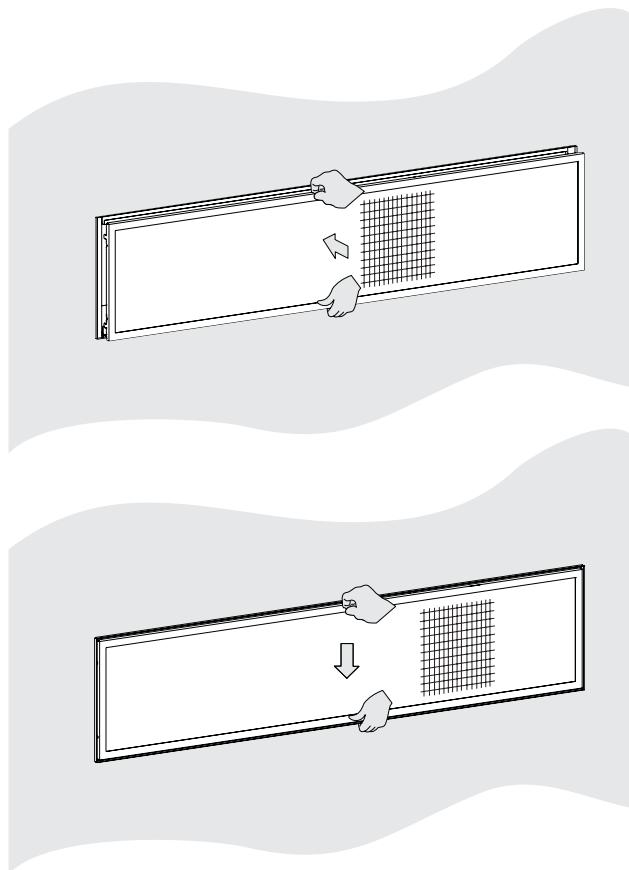

Figure 10
1. Reinstall the Barrier Screen onto the fireplace by lining up the tabs with the slots in the firebox. Push the barrier screen toward the unit and lower it slightly to lock in place. **See Figure 10.**